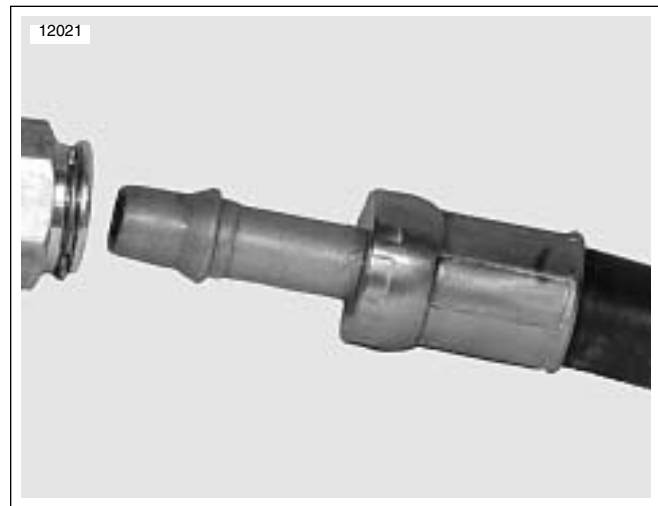

Figure 3-110. Flanged Oil Line
2. See Figure 3-110. Push the correct flanged oil line into the correct fitting in the swingarm until each one clicks in place under the spring clip.